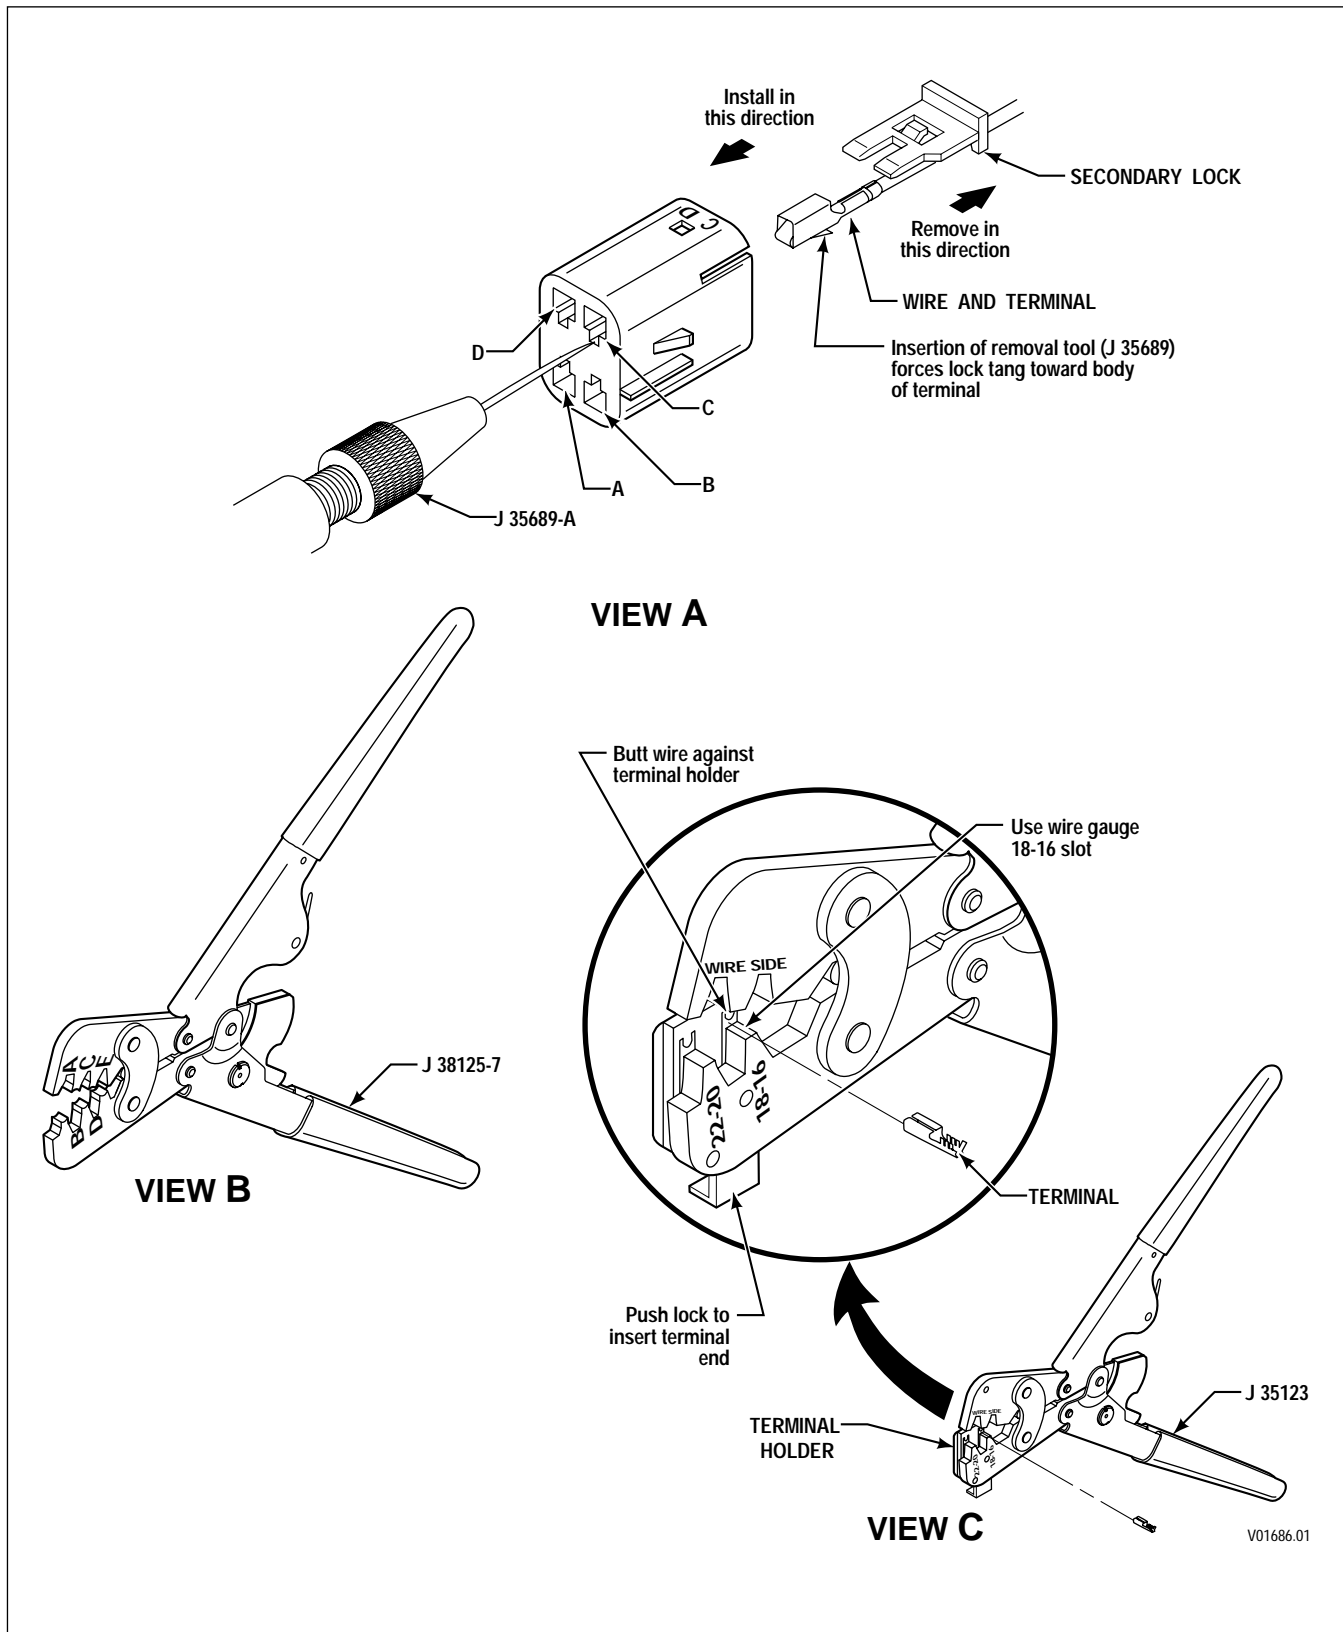

Figure E-3. Packard Metri-Pack 150 Series Connectors — Push-to-Seat (Oil Level Sensor)
2. Insert needle end of terminal remover J 35689-A into the small notch between the connector and the terminal to be removed (Figure E-3, View A). Push the lock tang toward the terminal.
2. Place core crimp portion of terminal on bed of anvil “E” and squeeze crimper enough to keep terminal from dropping (Figure E-3, View B).